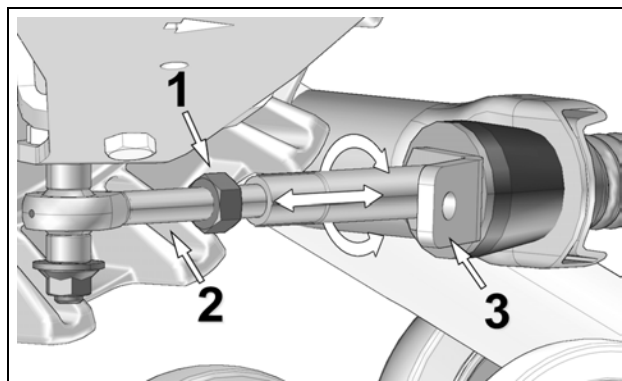

Figure 6
- Loosen jam nut (1). Adjust length of rod end (2) by rotating the steering limiter support plate on (3) the stabilizing arm. Use a 30 mm wrench to rotate support plate and obtain **254 mm** above the ground. Refer to Figure 6.